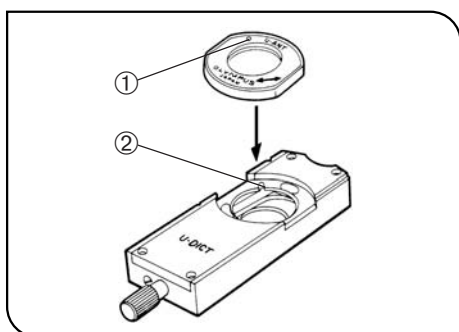

Fig. 45
3 Attaching the Analyzer and DIC Slider (Figs. 45 to 47)
2. Align the index ① of the U-ANT analyzer and the positioning groove ② of the U-DICT DIC slider and drop the analyzer into the analyzer mount of the DIC slider. (Fig. 45)
3. Hold the U-DICT ③ so that the side with indication faces down, insert it into the revolving nosepiece, and tighten the clamping knob ④.